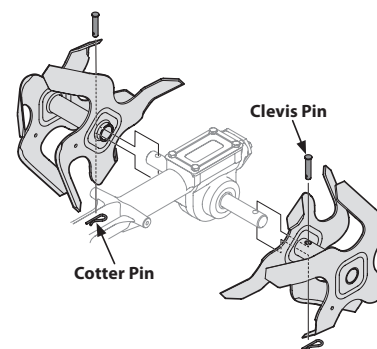

Figure 22
- To remove a tine assembly, simply remove the cotter pin securing the clevis pin as seen in Figure 22. Remove the clevis pin and slide the assembly to the outside of the unit and off of the tine shaft.